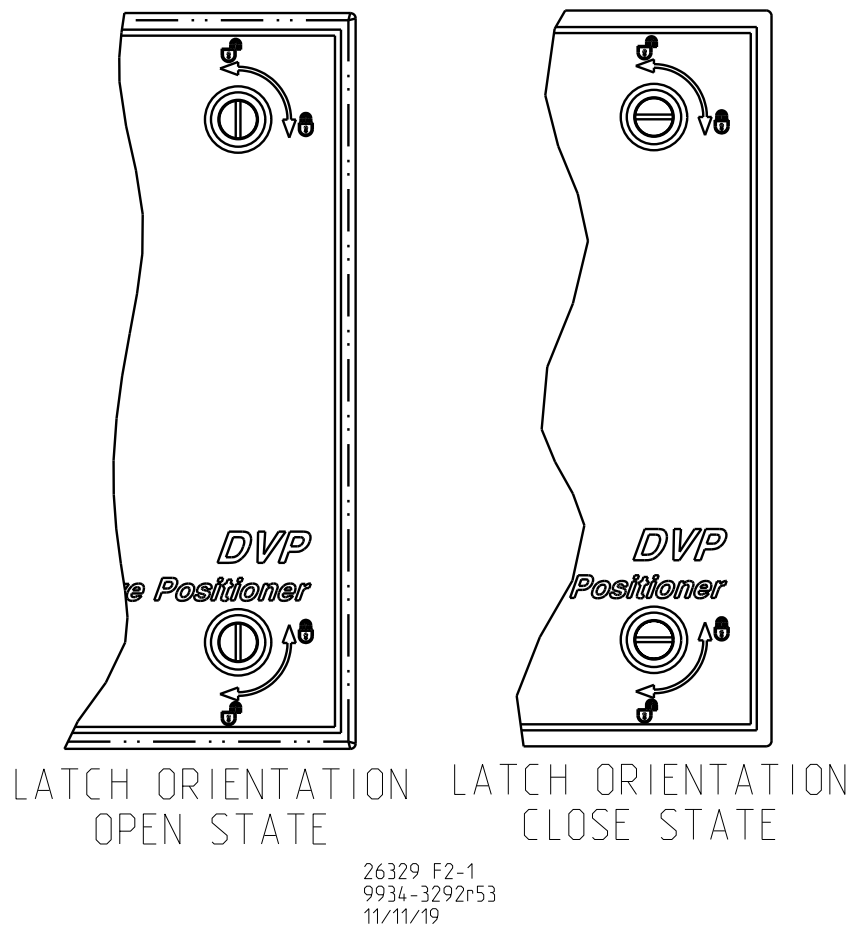

Figure 2-1. Latch Orientation Open/Close State
- Allow adequate space around the unit for servicing and cable routing (Figure 2-1).
- For maximum thermal performance, the IP30 DVP must be mounted on a vertical surface such that the wires exit out the positioner from an upward and downward direction. See direction indication in Figure 2-1.
To open the door, use a large flathead screwdriver to turn the latch insert slot approximately a quarter turn to the proper direction shown on device cover. Opposite motion between latches is required (see Figure 2-1). It may be necessary to push on the door while turning the latch to relieve some of the pressure applied by the door gasket. To fully open device lid, both latch slot lines should point to the UNLOCK or OPEN symbol. When closing the door, make sure both latches are fully turned to the LOCK or CLOSED position for proper device sealing.
On the IP66 model, opposite turning motion is required between the latches to open or close the device. See Figure 2-1.